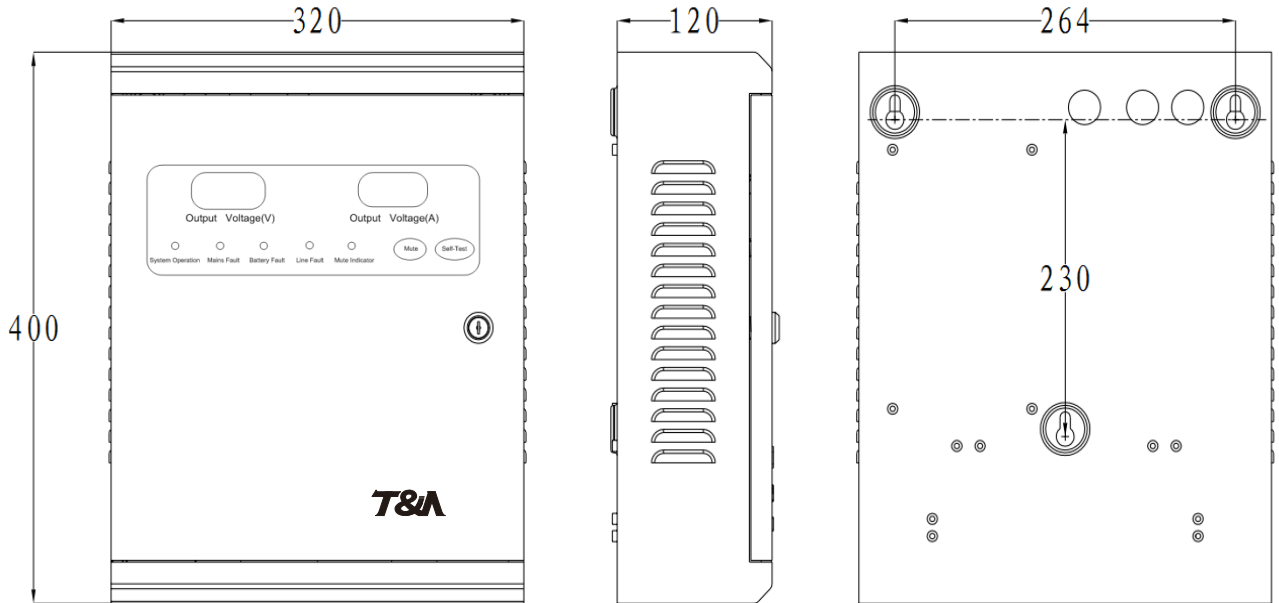

Fig 1 Appearance & Dimension
5.1 The appearance and dimension of the PSU are shown in the Fig.1